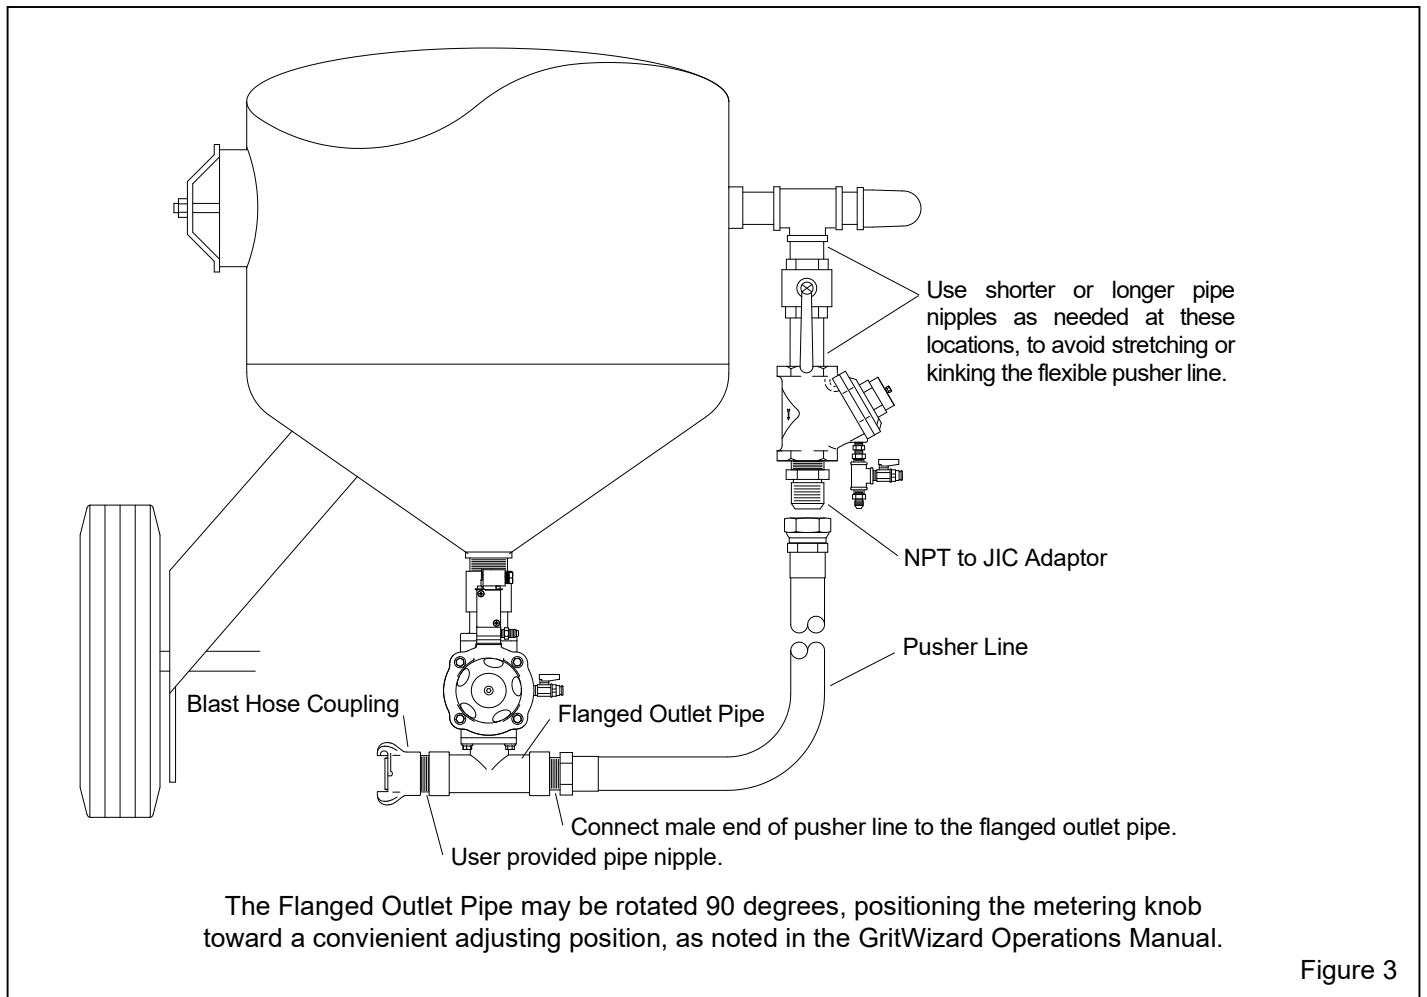

Figure 3
2.3.8 Connect the flexible pusher line and check the fit. Remember the JIC fitting will be somewhat higher after the fittings are tightened. The old pusher line may be too long or too short to connect to the fittings without it stretching or kinking. Some adjustment can be done by lengthening or shortening the nipples between the tee, choke valve, and ACE Valve, as shown in Figure 3. Tighten the fittings when certain the pusher line fits. **If the pusher line does not fit correctly, a shorter or longer pusher line is required.**
2.3.10 Apply pipe thread sealant to the male threads of a new 1-1/4" NPT nipple (1-1/2" NPT when using the 1-1/2" flanged outlet pipe) and connect the blast hose coupling to the outlet pipe, as shown in Figure 3.